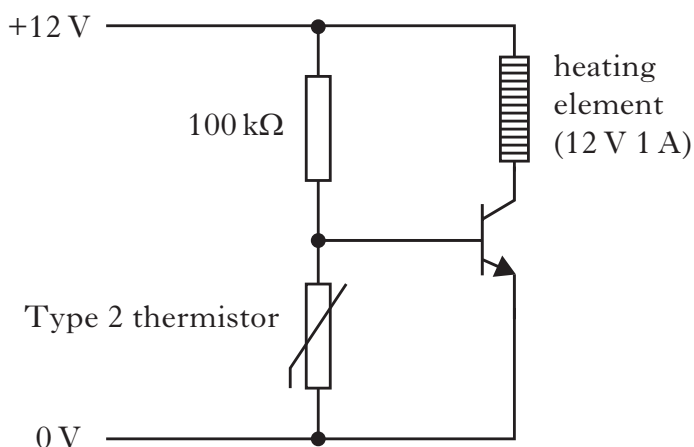

Figure Q4
4. The circuit shown in Figure Q4 is designed to switch on a greenhouse heater when the temperature in the greenhouse falls to 15 °C.